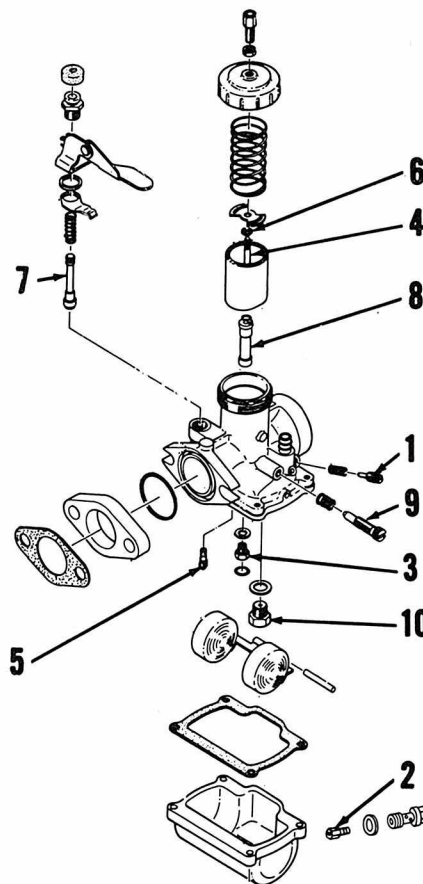
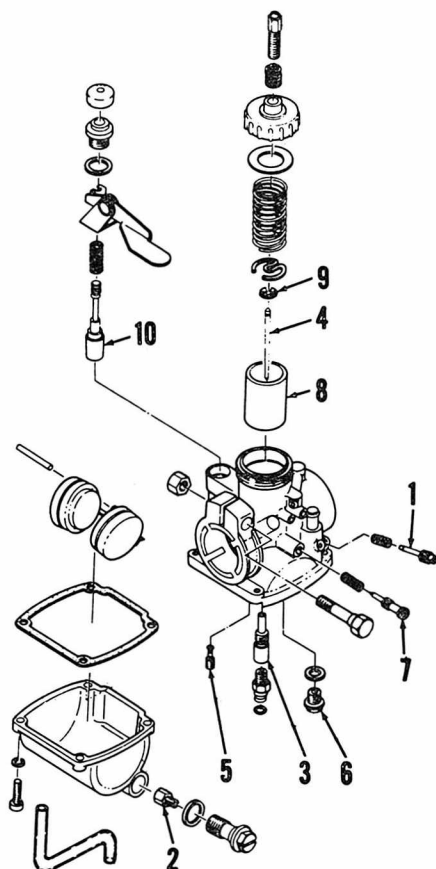
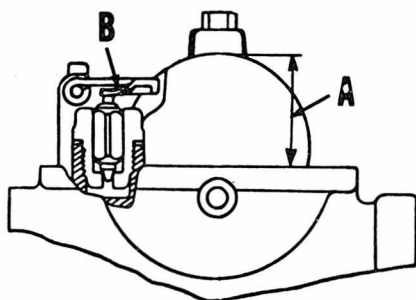

Fig. Y10-1—Exploded view of typical carburetor used on AT-1 and CT-1 models.
Fig. Y10-2—Exploded view of carburetor used on HT-1 models.
Fig. Y10-3—Float level (A) is adjusted by bending tang (B).
**CARBURETORS.** A Mikuni VM type carburetor is used on all models. Idle mixture screw (1—Fig. Y10-1) should be 1½ turns out from a lightly seated position on CT-1 and AT-1 models. Screw (1—Fig. Y10-2) should be 1¾ turns out on HT-1 models. Float level is adjusted by bending tang (B—Fig. Y10-3) and is measured
See Fig. Y10-1.
See Fig. Y10-2